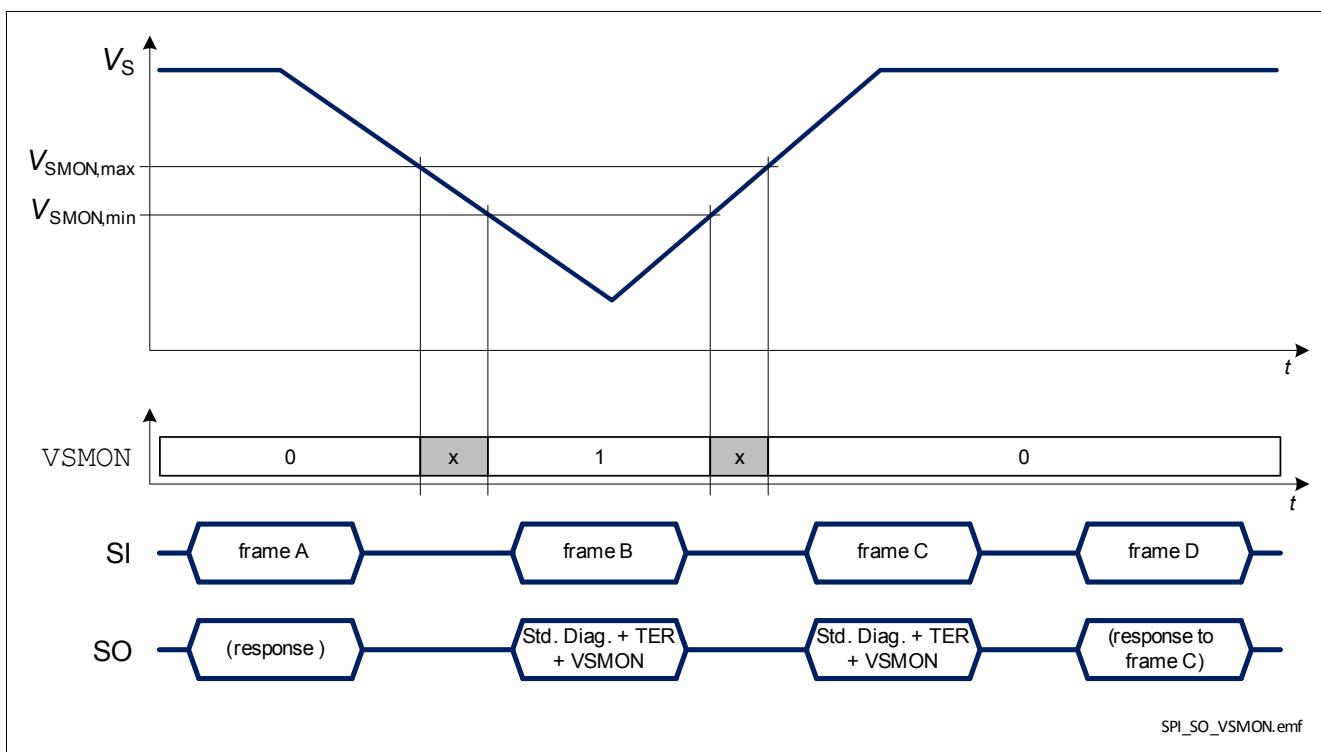

Figure 35 BTS56033-LBA response in case of a negative battery voltage transient
- when $V_S < V_{SMON}$ and $DCR.MUX \neq 111_B$, as shown in Figure 35